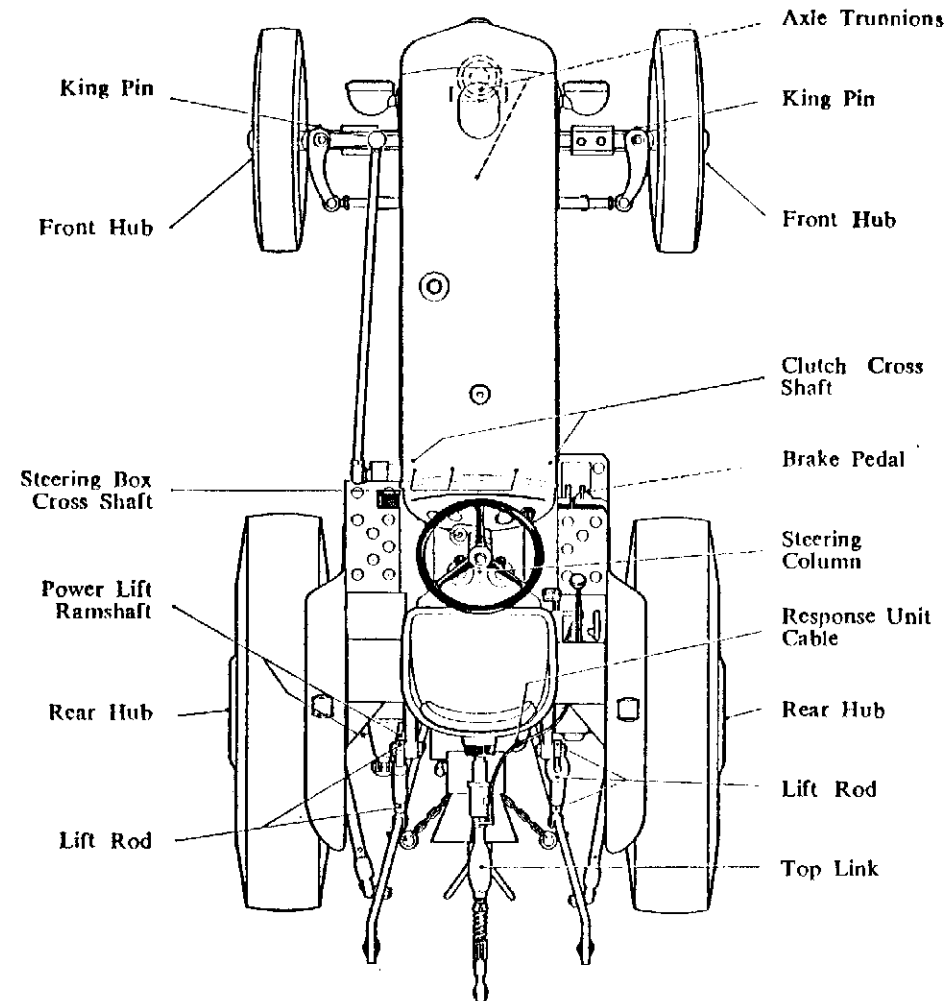

FIG. 1. Greasing Chart
5. **Greasing**—In dusty or wet and muddy conditions apply lubricant to the following points (see Fig. 1.). Clean the nipples before applying the gun.